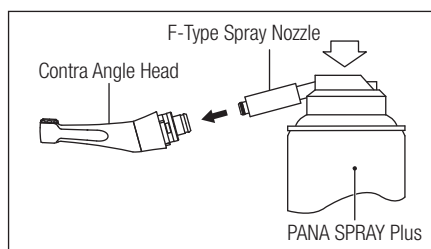

Fig. 7
- 3) Insert the spray nozzle into the rear of the Contra Angle Head. Hold the Contra Angle Head and spray for 2 to 3 seconds till oil comes out of the tip of the Contra Angle Head. Repeat lubrication until the oil coming out of the tip is clear of debris, etc. (Fig. 7)